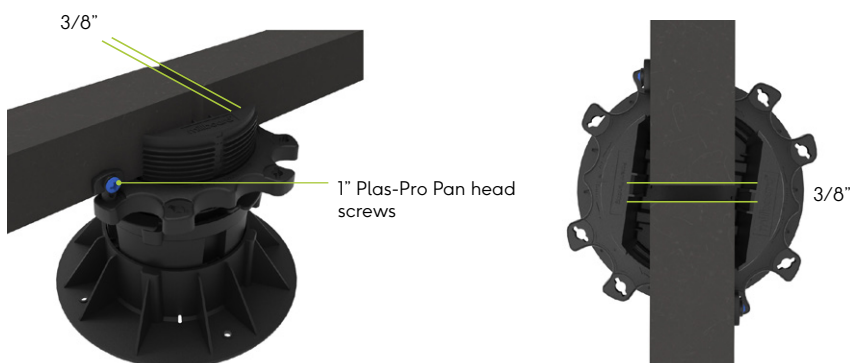

Fig. 35 - gapping of joist butt joints
- b. Joist butt joints should connect on a pedestal with a 3/8" gap between the ends of the joist, locking tabs inserted into the cradle and screwed to the Plas-Pro with 1" pan head screws (fig. 35).